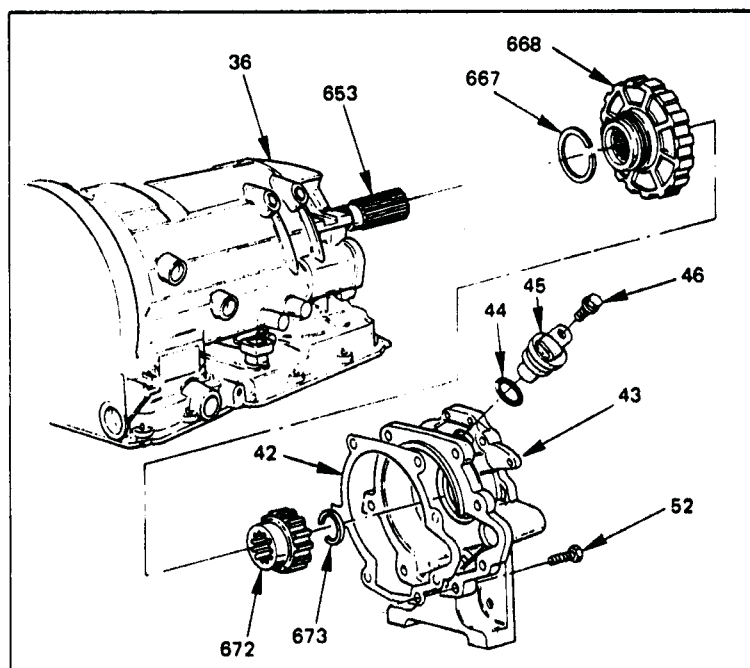

Figure 29
NOTE: The 4 wheel drive version is shown in Figure 29.
12. The 4 wheel drive version is similar to this procedure, and is shown in Figure 29.